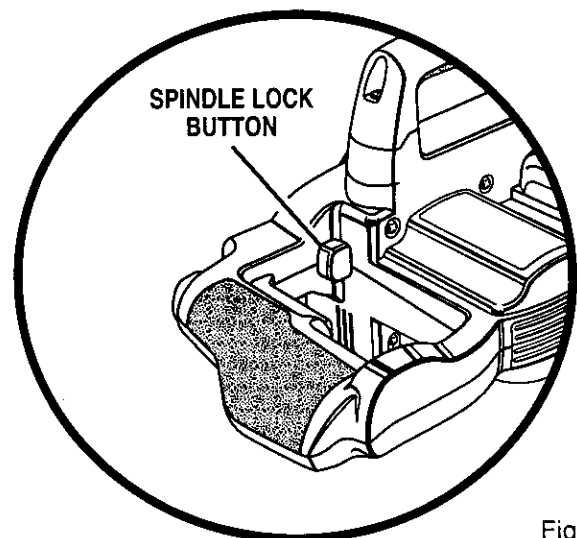

Fig. 20
- Depress the spindle lock button and rotate the blade bolt until the spindle locks. *See Figure 20.*